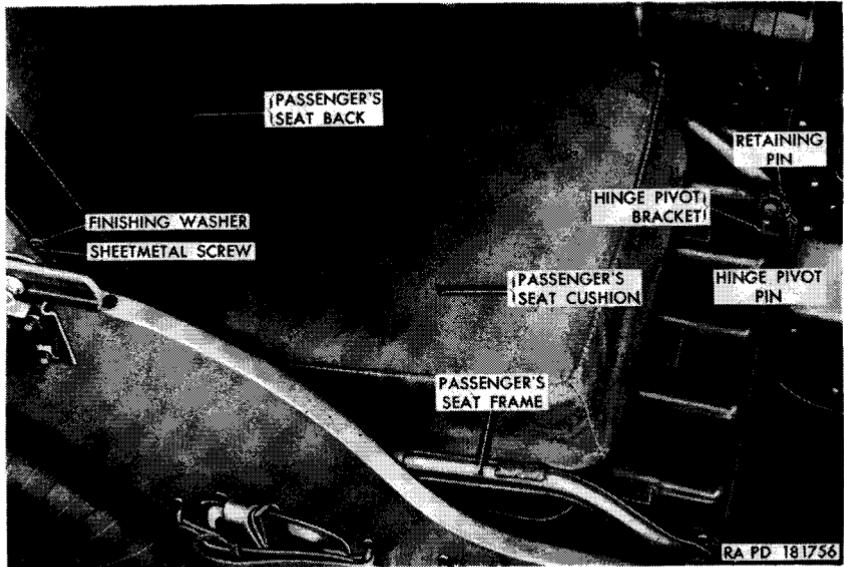
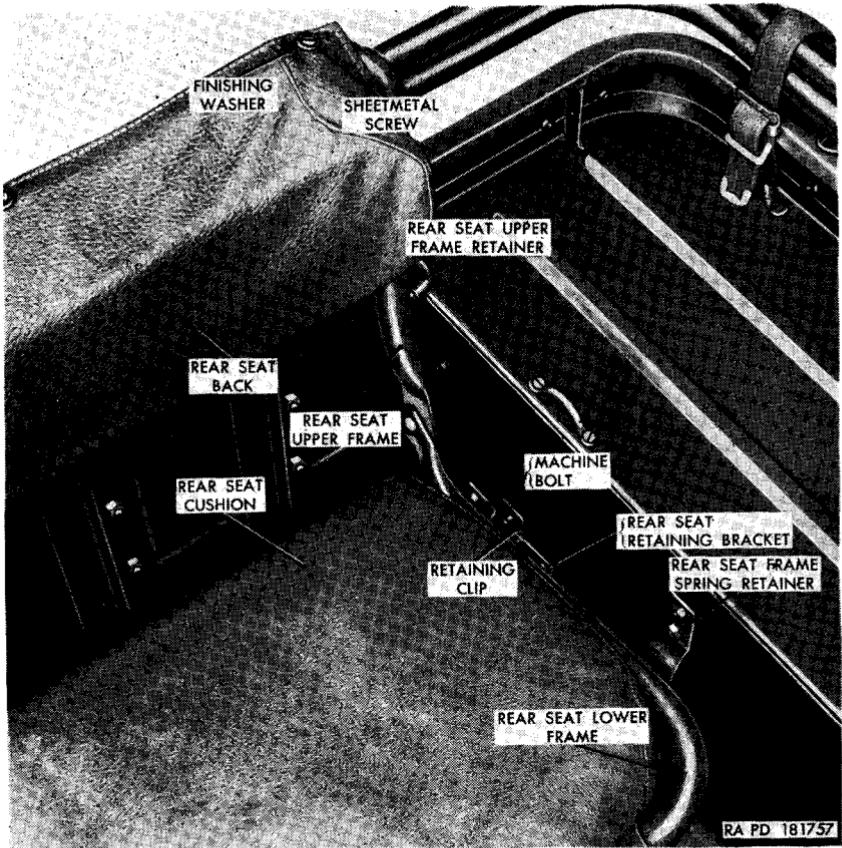

Figure 134. Passenger's seat.
Figure 135. Rear seat disconnect points.
b. *Passenger's Seat* (fig. 134).
- (1) *Removal.* Remove the two retaining pins from the hinge pivot pins welded to the seat frame. Pry the pivot pins out of the hinge pivot brackets and remove seat from vehicle.
- (2) *Installation.* Position the two hinge pivot pins, welded to the seat frame, in the hinge pivot brackets. Secure the pivot pin by inserting retaining pins through the ends of the pivot pins.
c. *Rear Seat* (fig. 135).
- (1) *Removal.* Remove the four plain nuts, lockwashers, and bolts holding the retaining clips in position at each side of vehicle and remove clips from seat retaining brackets. Lift the seat straight up and out of vehicle.
- (2) *Installation.* Position the seat in vehicle so that seat upper frame is inside the two seat upper frame retainers and the seat lower frame is in the rear seat retaining brackets. Position the retaining clips in the retaining
e. Passenger's Seat Cushion (fig. 134).
- (1) *Removal.* Tilt the seat forward and remove the two lock-washer screws securing the seat cushion to the seat frame. Pull out on seat cushion to disengage clips at rear of cushion from seat frame and remove cushion from frame. Remove the 12 sheet metal screws and finishing washers securing the seat back to the seat frame and lift the back off the frame.
- (2) *Installation.* Position the seat cushion in the seat frame and push cushion back into frame to engage the clip on the cushion with the frame. Secure the cushion to the frame with two $\frac{5}{16} \times \frac{5}{8}$ lockwasher screws. Position the seat back on the seat frame and secure in position with 12 No. 10 x $\frac{1}{2}$ sheet metal screws and No. 10 finishing washers.
f. Rear Seat Cushion (fig. 135).
- (1) *Removal.* Remove the 10 sheet metal screws and finishing washers securing the seat cushion to the seat lower frame and lift the seat cushion out of the seat frame. Remove the 10 sheet metal screws securing the seat back to the seat upper frame and lift seat back off frame.
- (2) *Installation.* Position the seat cushion on the seat lower frame and secure in position with 10 No. 10 x $\frac{1}{2}$ sheet metal screws and No. 10 finishing washers. Position the seat back on the seat upper frame and secure in position with 10 No. 10 x $\frac{1}{2}$ sheet metal screws and No. 10 finishing washers.